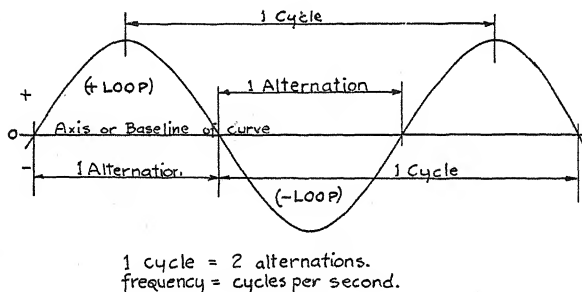

FIG. 108. A.C. wave; alternations, cycles, and frequency.
**125. Cycles and Frequency.** These two terms need to be clearly defined, here, so they may be used from now on in various discussions and explanations. The curve of an alternating current, shown in Figure 108, practically tells the whole story graphically. (Compare Fig. 108 to Fig. 69 in Chapter V.)
**Cycle**—a cycle is one complete "wave" of the a.c. curve, and always has two alternations in it, as shown in Figure 108.
**Frequency**—the frequency of an alternating current is always given in the number of cycles per second that the current makes. From Figure 108, you see that the cycles per second are always half the number of alternations per second (reversals per second) of the current.